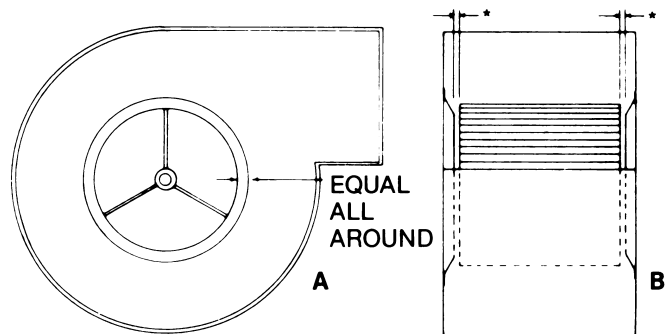

FIGURE 1 \* EQUAL
- Check wheel position in scrolls. See Figure 1 a and b.